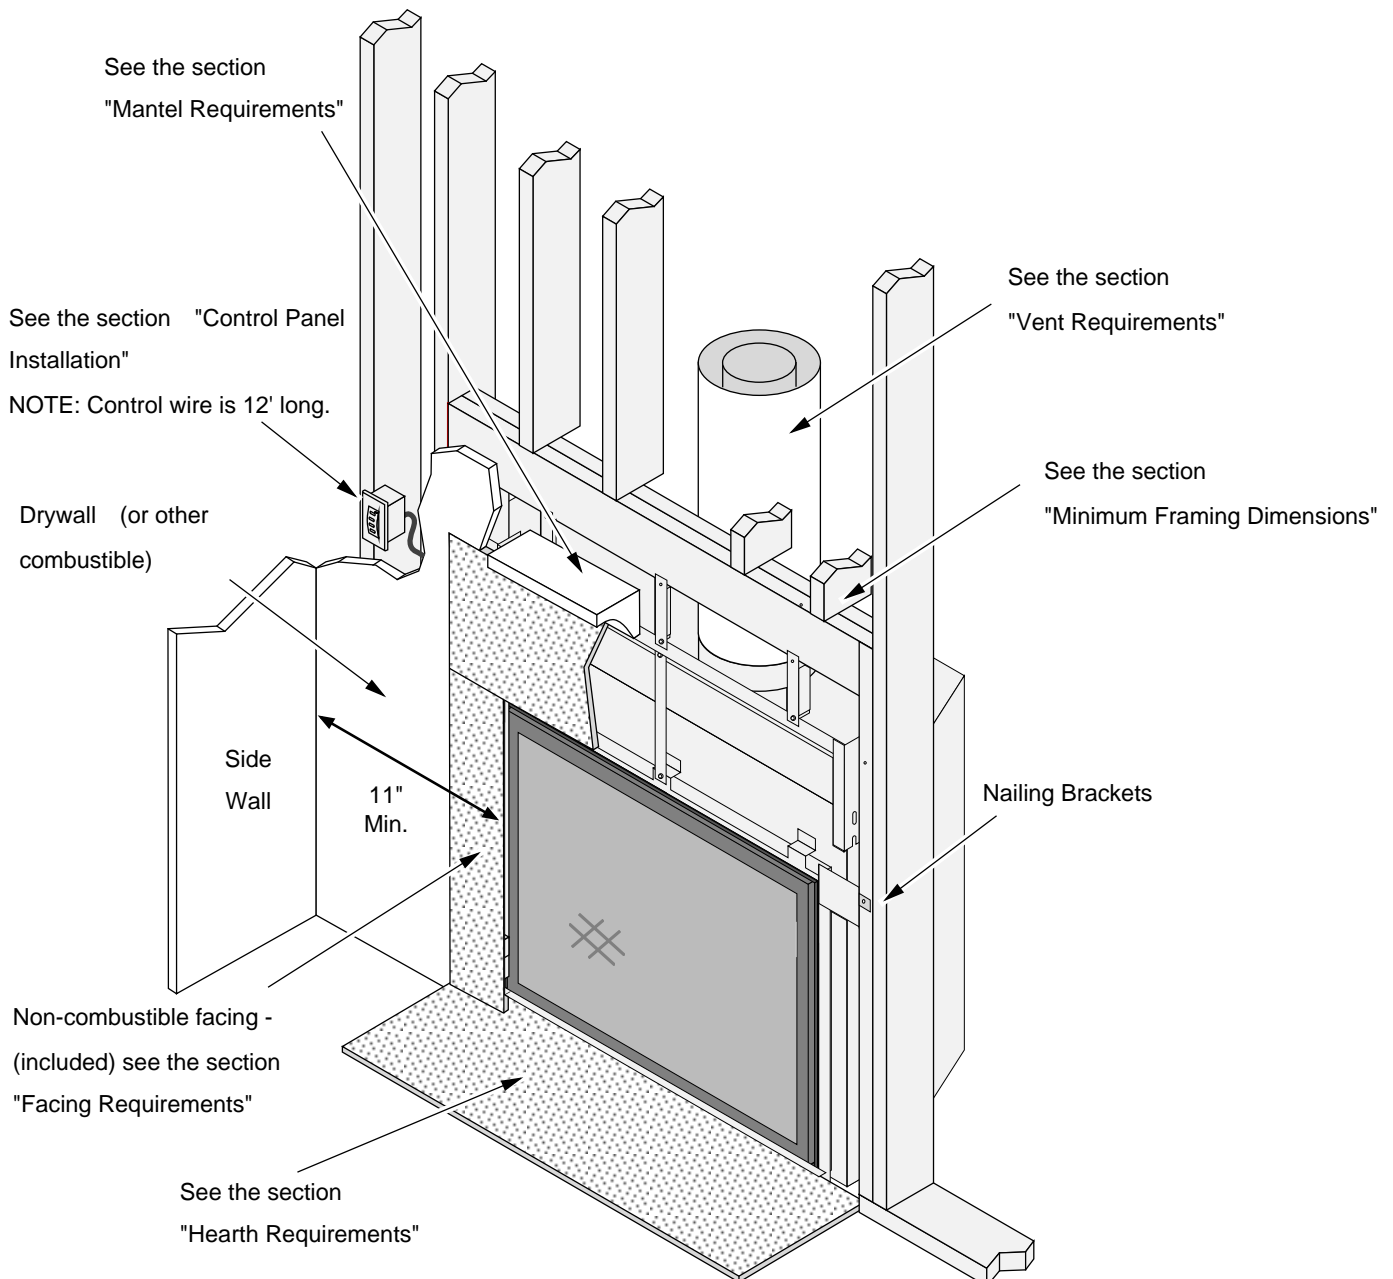

Figure 3
- When installed, walls in front of the fireplace must be a minimum 11" from the glass (5" from the side stand-offs - see Figure 3).